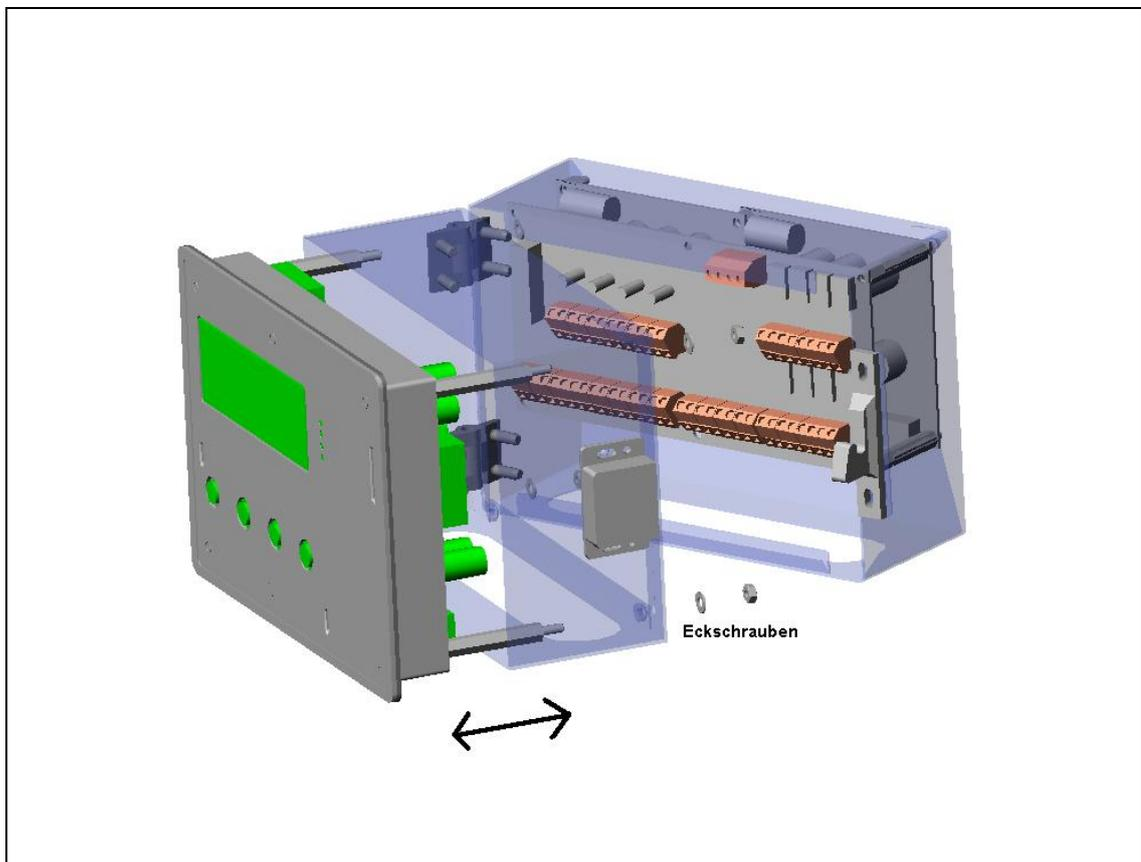

fig. 13b: mounting BMGZ610A, BMGZ611A, BMGZ620A
1. Unscrew all 4 side screws (“Eckschrauben” see fig. 13b)